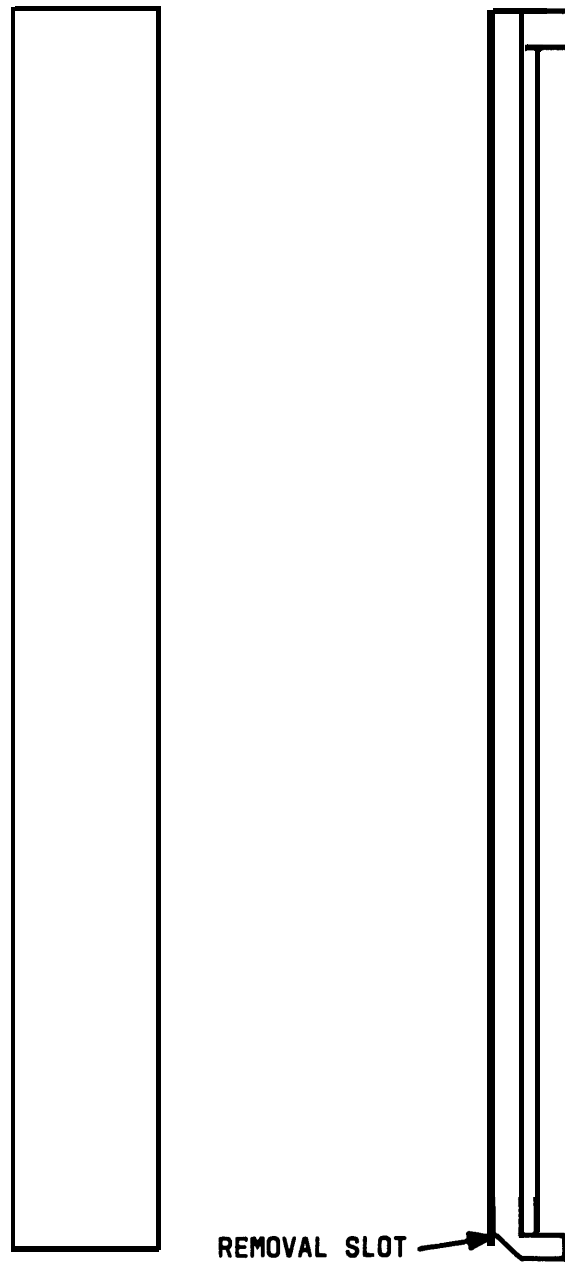
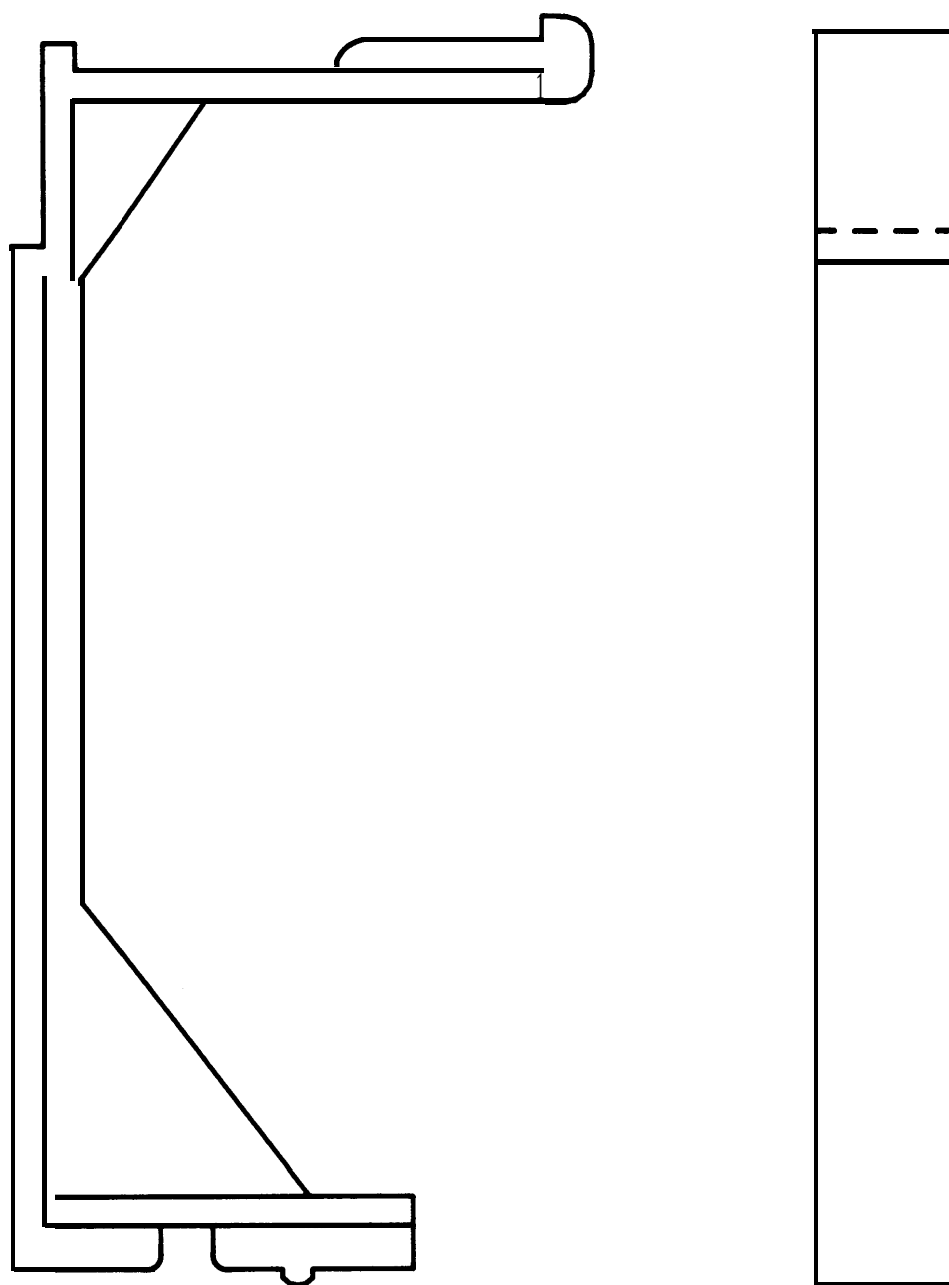

Figure 24. Blank Circuit Pack Faceplate (Removal Slot Location)
Figure 25. Blank Circuit Pack Faceplate
1. See WARNING. If the circuit pack is being installed in a System 75, use a flat-blade screwdriver to remove blank circuit pack faceplate from the selected location in carrier (Figure 24). If the circuit pack is being installed in a System 75 XE, snap the circuit pack faceplate from the selected location in the cabinet (See Figure 25).